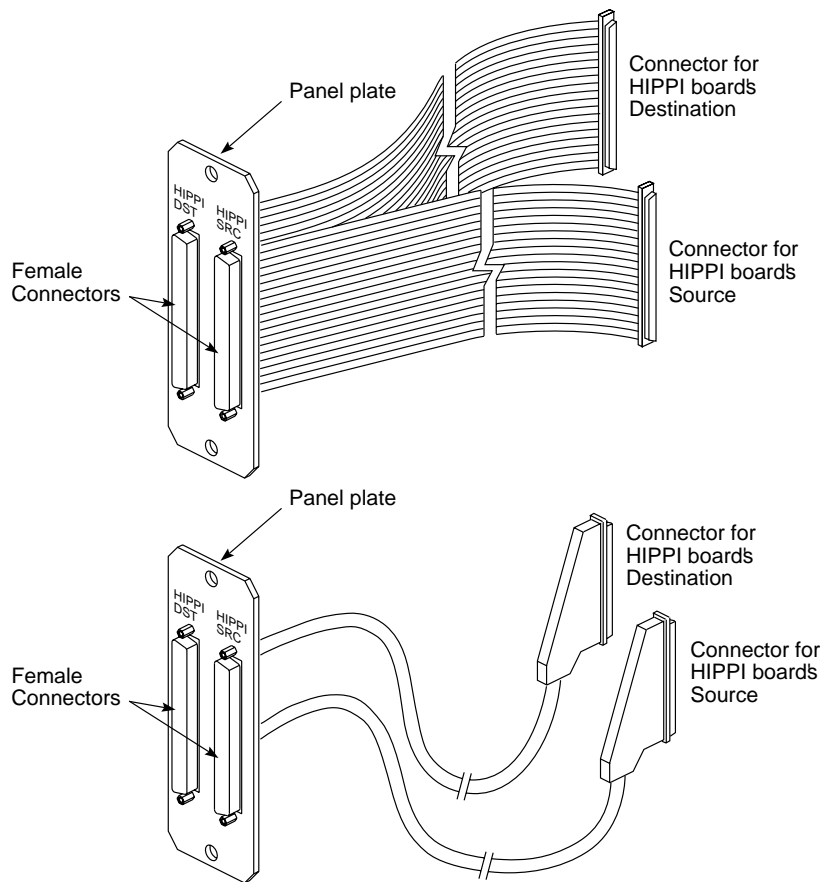

Figure 2-6 Internal HIPPI Cable Assembly (Two Different Styles)
1. Locate the internal cable assembly that consists of the HIPPI I/O panel plate with two internal HIPPI cables attached. The cable assembly is one of the styles shown in Figure 2-6.